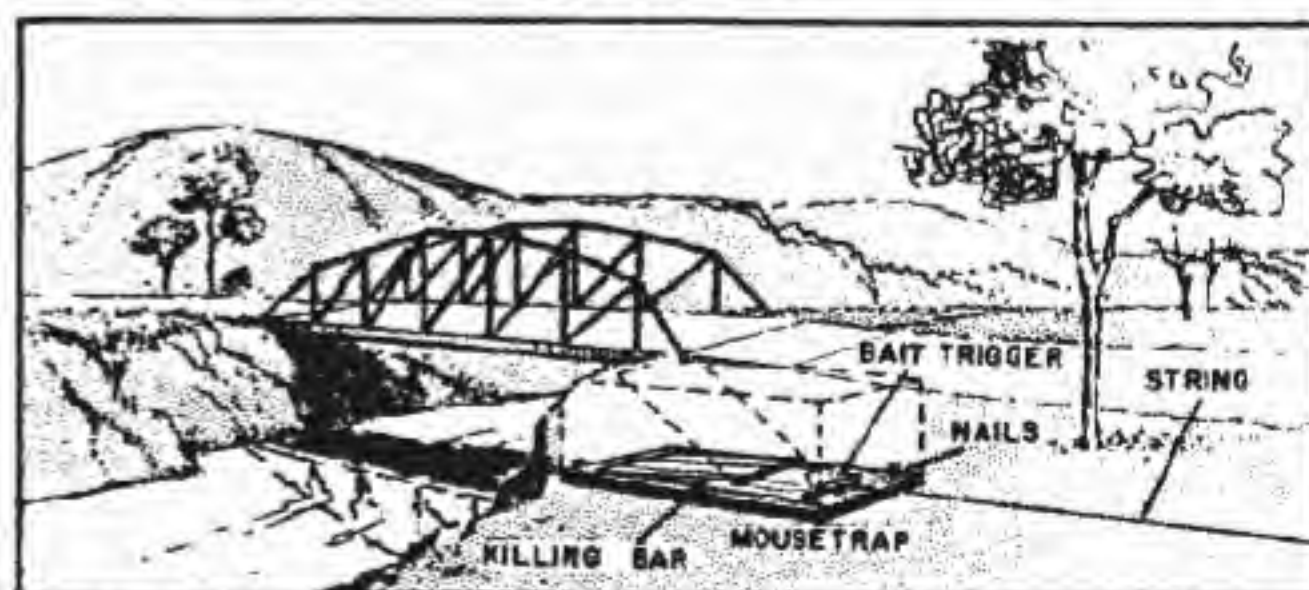

Figure 4
4. **"MOUSETRAP" A BRIDGE** (Figure 4) - A little ingenuity injected into the classroom improves the atmosphere for learning. A mousetrap, when used as shown here, can simulate the blowing up of a bridge. The aid is most effective when constructed as follows: